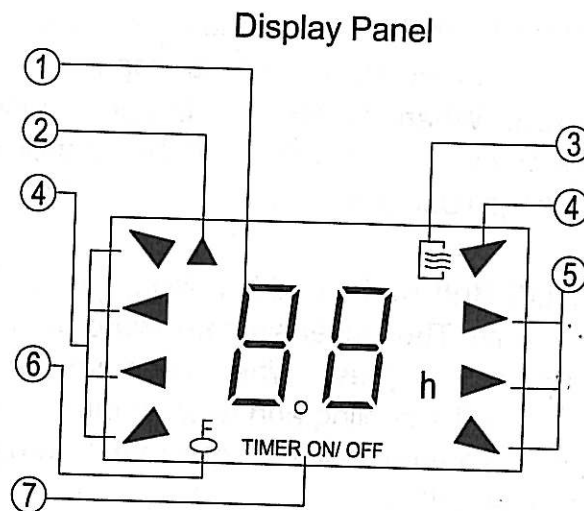

Fig. 2
- ① **DIGITAL DISPLAY area:** This area will show the temperature and, if in the TIMER mode, will show the ON and OFF settings of the TIMER. It will automatically revert back to show the temperature after 5 seconds. Under "FAN" operation mode, nothing is shown in this area.
- ② **TRANSMISSION Indicator:** This indicator flashes once when remote controller transmits signals to the indoor unit.
- ③ **ON/OFF Indicator:** This symbol appears when the unit is turned on by the remote controller, and disappears when the unit is turned off.
- ④ **OPERATION MODE Indicator:** Shows the current operation modes--"AUTO", "COOL", "DRY", "HEAT" and "FAN". HEAT only available for heat pump model.
- ⑤ **FAN SPEED Indicator:** Press the FAN SPEED button to select the desired fan speed setting (Auto-Low-Med-High). Your selection will be displayed in the LCD window except the Auto fan speed.
- ⑥ **LOCK Indicator:** This symbol appears when press the LOCK button, and disappears when press it again.
- ⑦ **TIMER ON/OFF Display:** This display area shows the settings of TIMER. That is, if only the starting time of operation is set, it will display the TIMER ON. If only the turning off time of operation is set, it will display the TIMER OFF. If both operations are set, it will show TIMER ON/ OFF which indicates you have chosen to set both the starting time and off time.
**▲ NOTE:** All signs shown in the Fig.2 is for the purpose of clear presentation. But during the actual operation only the relative functional items are shown on the display panel.